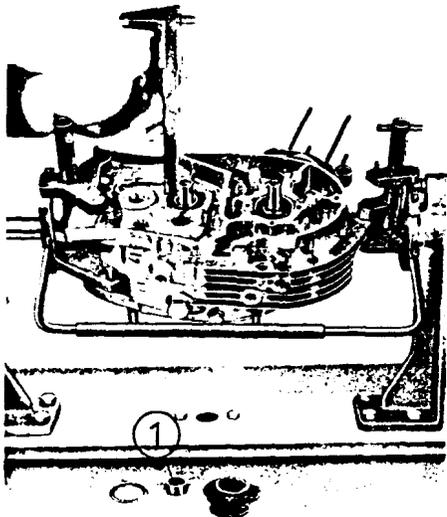

Fig. 48. Aligning the cover plate
Slightly grease the lip of the sealing ring in the cover plate – put on the distance bush [(1) in Fig. 48].